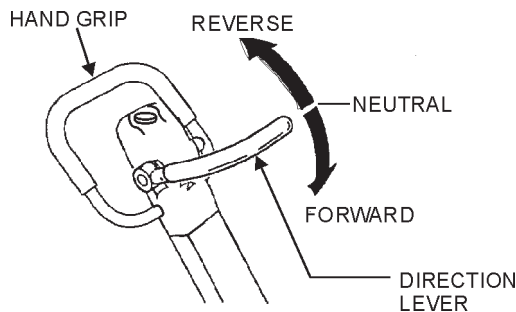

Figure 15. Directional Travel Lever
2. To make the compactor move in the forward direction push the **Directional Travel Lever** (Figure 15) forward.
3. To make the compactor move in the reverse direction pull the **Directional Travel Lever** (Figure 15) backwards.